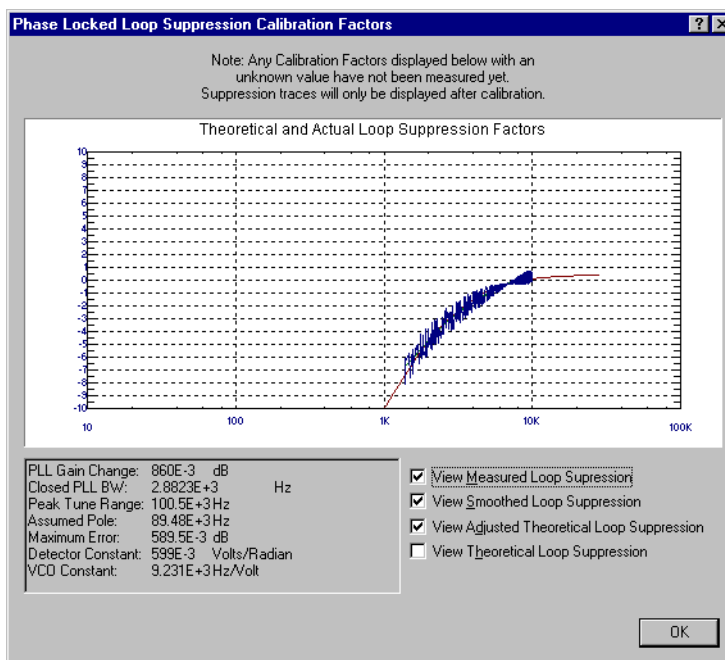

Figure 5-32 Suppression Selections
- 2 When the PLL Suppression Curve dialog box appears, select **View Measured Loop Suppression**, **View Smoothed Loop Suppression**, and **View Adjusted Loop Suppression**. See Figure 5-32.